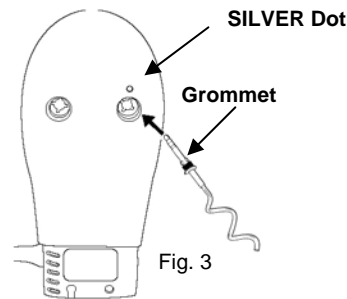

Fig. 3
3. Looking at the under side of the hand mixer, you will see that one of the sockets has a **SILVER** dot over it. (Fig. 3) Insert the dough hook with the grommet into this socket.